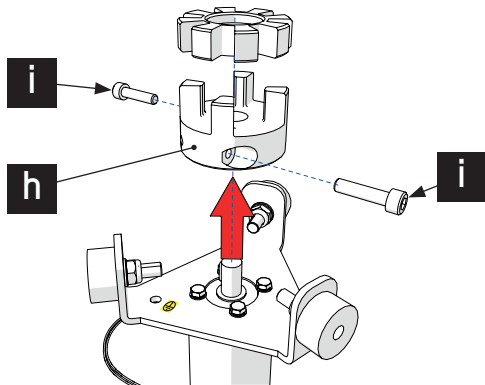

Fig. 30 - Motor replacement (Coupling removal)
8. Once the assembly has been removed from the frame, remove the electric coupling (**h**) by unscrewing the two screws (**i**) (Fig. 30);